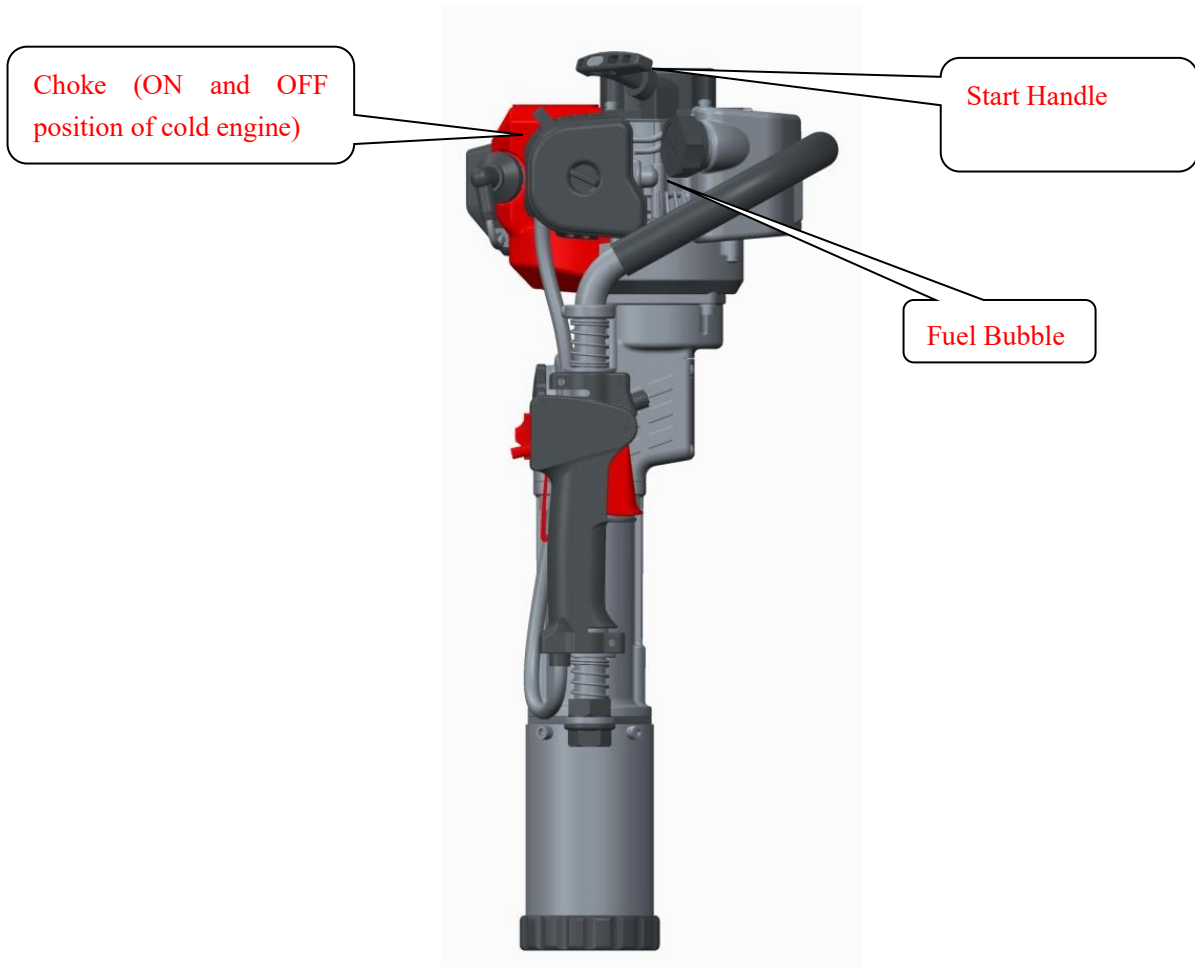

Fig 4
5.1. Before starting the new machine, press the transparent and semi-circle fuel bubble repeatedly (Fig.4) until carburetor is filled with fuel. (If the engine is cool, close the air door. Open air door after starting.)
5.2. Set the machine upright according to Fig. 4. Hold the upper part of the handle tightly with one hand while the other pulls the pulling handle of starter for over 50cm quickly. Do not let the pulling handle go back freely in repeated pulling but hold it tightly to avoid injury resulting from quick resilience.